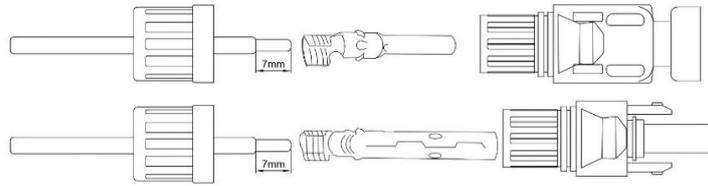

Figure 2.10 Connector cover nut
1. Peel off the DC line about 7mm and remove the connector cover nut see figure 2.10 .